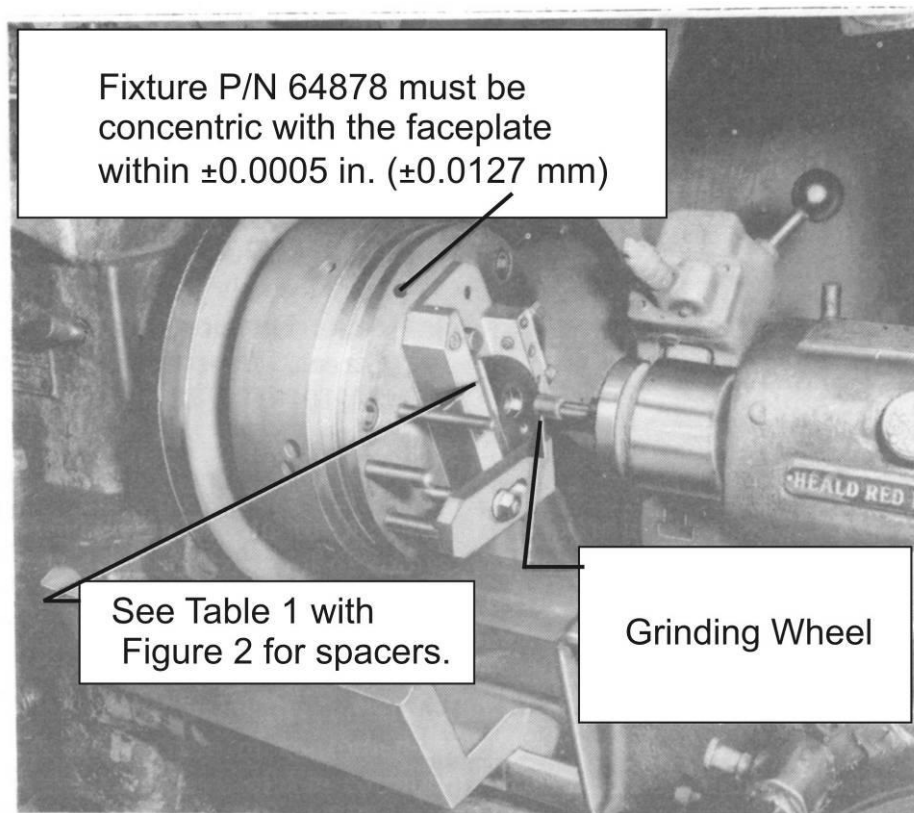

Figure 3
3. Make sure that the 1/8 in. (3.18 mm) diameter hole in the center of the fixture is concentric with the center of the face plate on the internal grinding machine. Concentricity must be held to within ± 0.0005 in. (± 0.0127 mm). Refer to Figure 3.
9. Install the counterweight on the fixture P/N 64878 as shown in Figure 3.